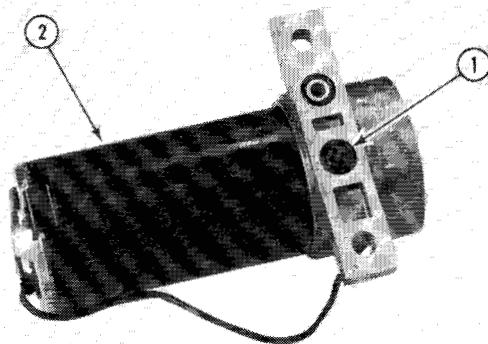

Figure 108
Install two O-ring (1, Figure 108) on pump (2).